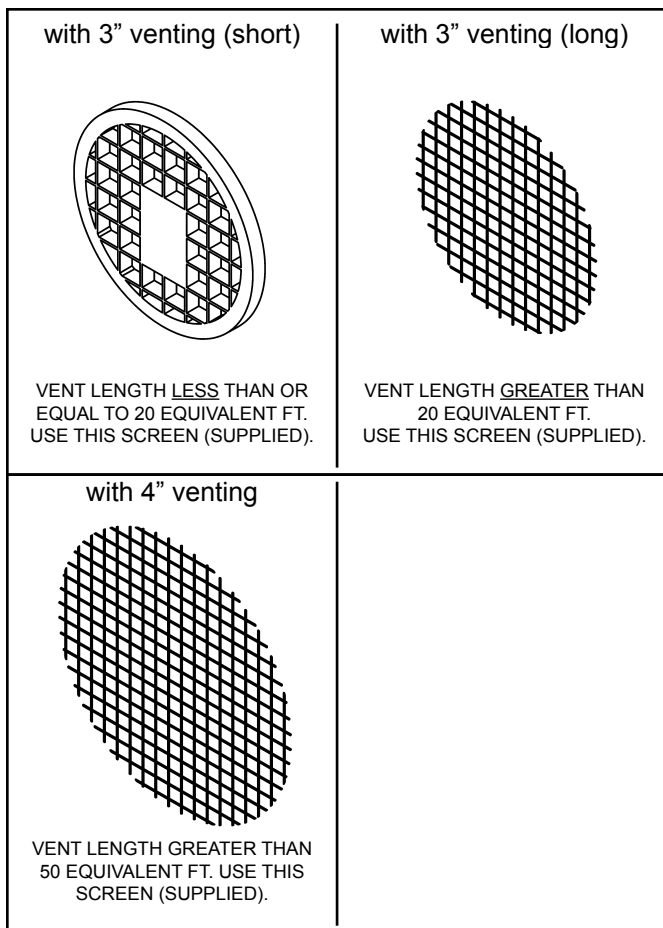
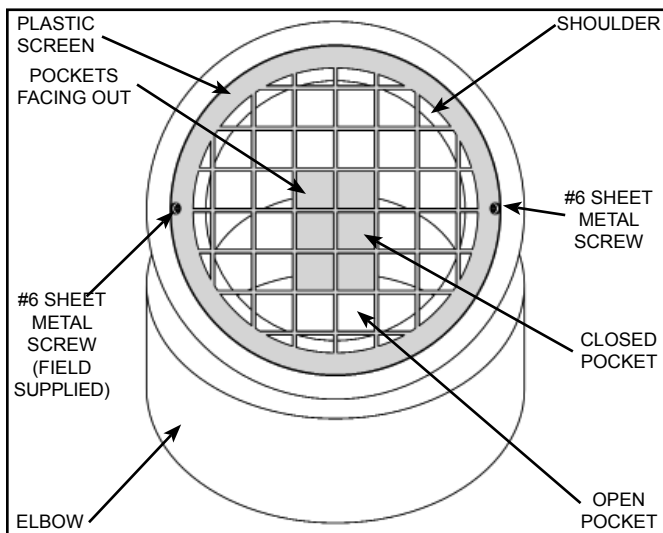

Figure 29
Figure 30
* see Figure 29, "Venting Terminations And Sizing" and "Vent Screen Installation".
Use the Vent Termination Screen as shown in Figure 29. Install the same Vent Termination Screen in the Termination Elbow on both the air intake pipe and the exhaust pipe.
Installed in the vent termination elbow, the vent screen is required to keep foreign objects, rodents and small birds from entering the venting system. These screens have been sized to ensure maximum energy efficiency of the vent system based on the "equivalent length" of the vent piping. CHOOSE ONLY the ONE PAIR OF SCREENS THAT MATCH YOUR VENTING CONFIGURATION (see Figure 29). How to determine the "equivalent length" is shown in Table 3.
- Supplied with this heater are several vent termination screens (see Figure 29).
- Plastic screens must be secured with (2) screws:
- Install plastic screen into elbow (see Figure 30).
- Orient screen as shown in see Figure 30 with an opening at the bottom of the assembly and the smooth side facing in.
- Secure screen in place with screws (field supplied) (see Figure 30).